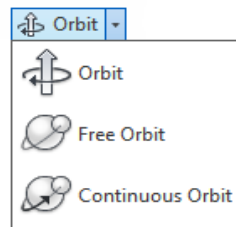

Figure 2-66 The tools in the **Orbit** drop-down
**Free Orbit.** This sub-option can be invoked by choosing the **Free Orbit** tool from **View > Navigate > Orbit** drop-down in the **View Ribbon**, refer to Figure 2-66; 3D orbit view will be activated in the current viewport. When you invoke the **Free Orbit** tool, an arcball appears. This arcball is a circle with four smaller circles placed such that they divide the bigger circle into quadrants. The UCS icon is replaced by a shaded 3D UCS icon. In the 3D orbit viewing, the target is considered stationary and the camera location is considered to be moving around it. The target is the center of the arcball. The **Free Orbit** tool is a transparent tool and can be invoked inside any other tool.